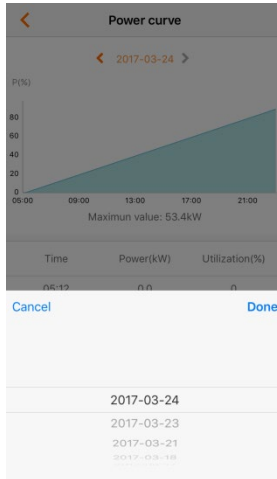

Fig. 10-11 Power curve
Step 2 Click the time selection bar on the top of the interface to check the power curve of a certain time as shown in Fig. 10-11.